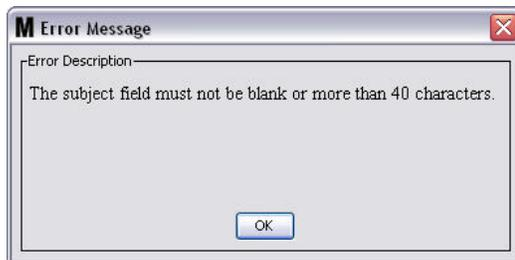

FIG. 160
- **Subject:** Identifies reason for e-mail message being sent. You must provide a subject. The error message shown in FIG. 160 pops up if you click the OK button without providing a Subject.